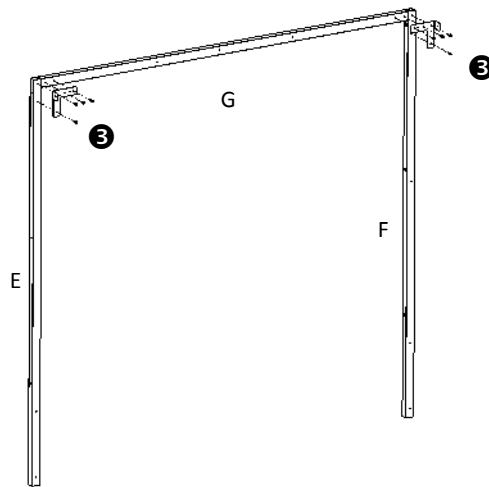

Figure 3: Rear screen frame assembly and corner brackets.
2. Lay out three posts of rear screen frame on the ground according to Figure 3.